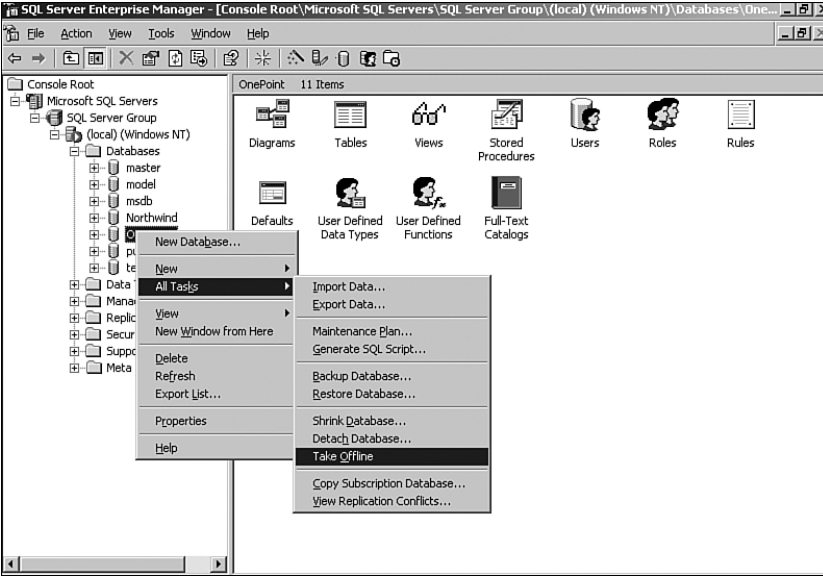

FIGURE 12.8 Take the database offline.
2. Before performing a full restore for a SQL Server database, you must take the existing instance offline. Launch SQL Enterprise Manager and navigate to Microsoft SQL Servers \ SQL Server Group \ Local \ Databases \ OnePoint. Right-click on OnePoint, select All Tasks, and select Take Offline, as displayed in Figure 12.8.